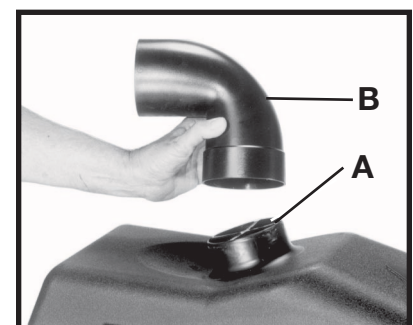

Fig. 35
The drum cover has a 4" O.D. dust chute (A) Fig. 35 that connects to a dust collection system.
Attach a 4" hose to the hood, or attach an accessory dust collector elbow (B) Fig. 35 to the dust chute (A). Attach the dust collection system to the elbow (B).